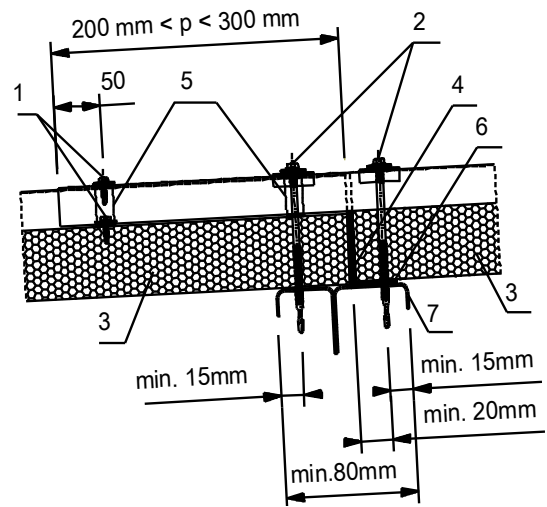

Fig .4
d. In the case of roof panels with end laps, the insulation should be cut back by: $200\text{ mm} < p < 300\text{ mm}$ (Fig.4, p - cut back width).
80mm for end lap detail (see Fig.4)